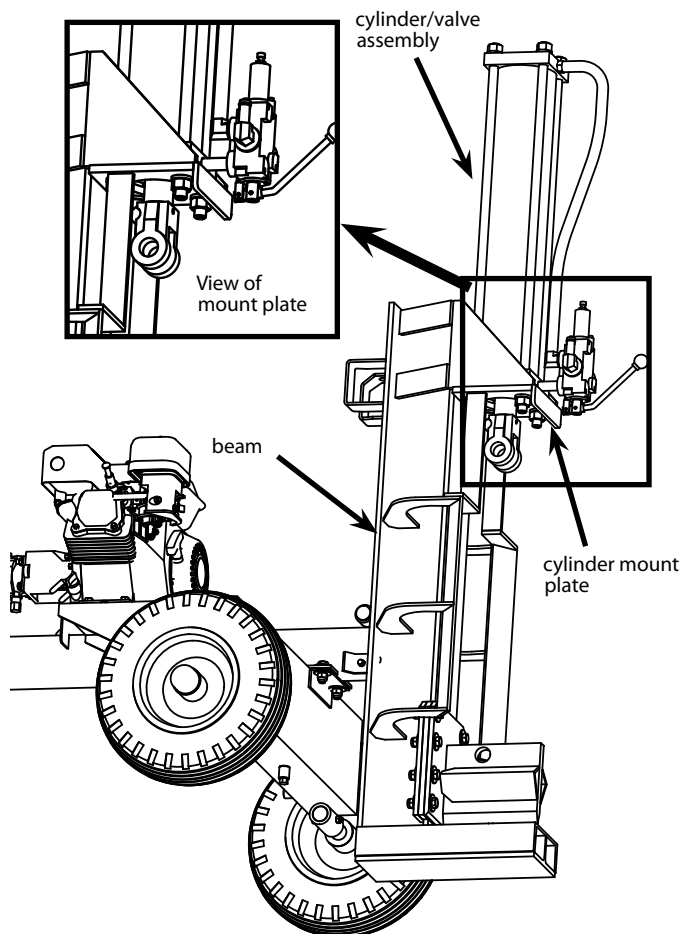

Figure 9
12. With the beam still in the vertical position, place the cylinder/valve assembly onto the beam's cylinder mount plate and attach using the four nuts, four lock washers, and four flat washers that are found in parts bag labeled #2. **SEE FIGURE 9.** Tighten with a 25mm deep-pocket socket wrench, (a socket extension will be needed to reach the nuts).